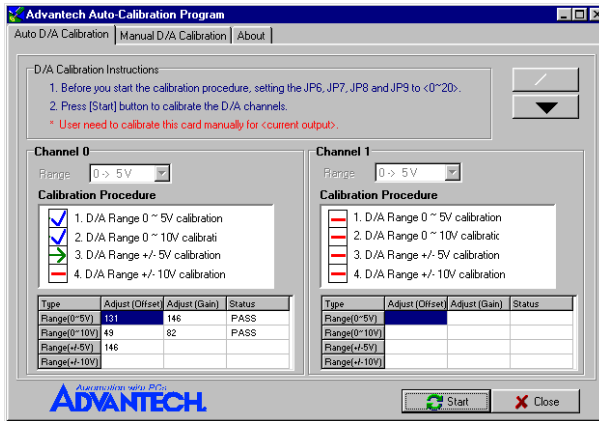

Figure D-6: Calibrating D/A Channel 0
Step 6: D/A channel 0 calibration is enabled (Fig. D-6)